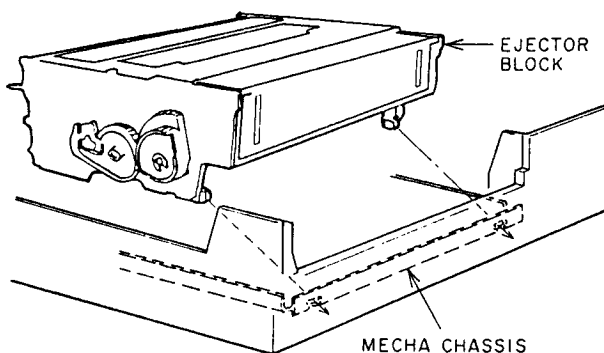

Fig. 4-7
- 1) Install the Ejector Block on the MECHA chassis as shown in Fig. 4-7.
- 2) Tighten two screws (A) and connect P44.